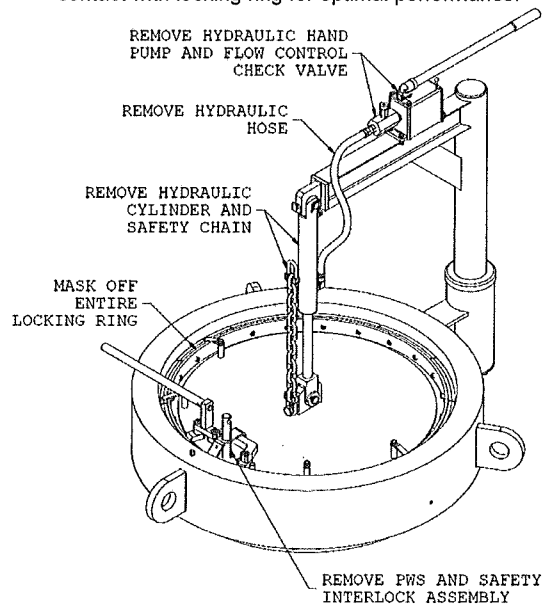

Figure 5 – Parts required to be masked or removed
- 1) Remove hydraulic components and mask off areas indicated in *Figure 5* and *Figure 6*